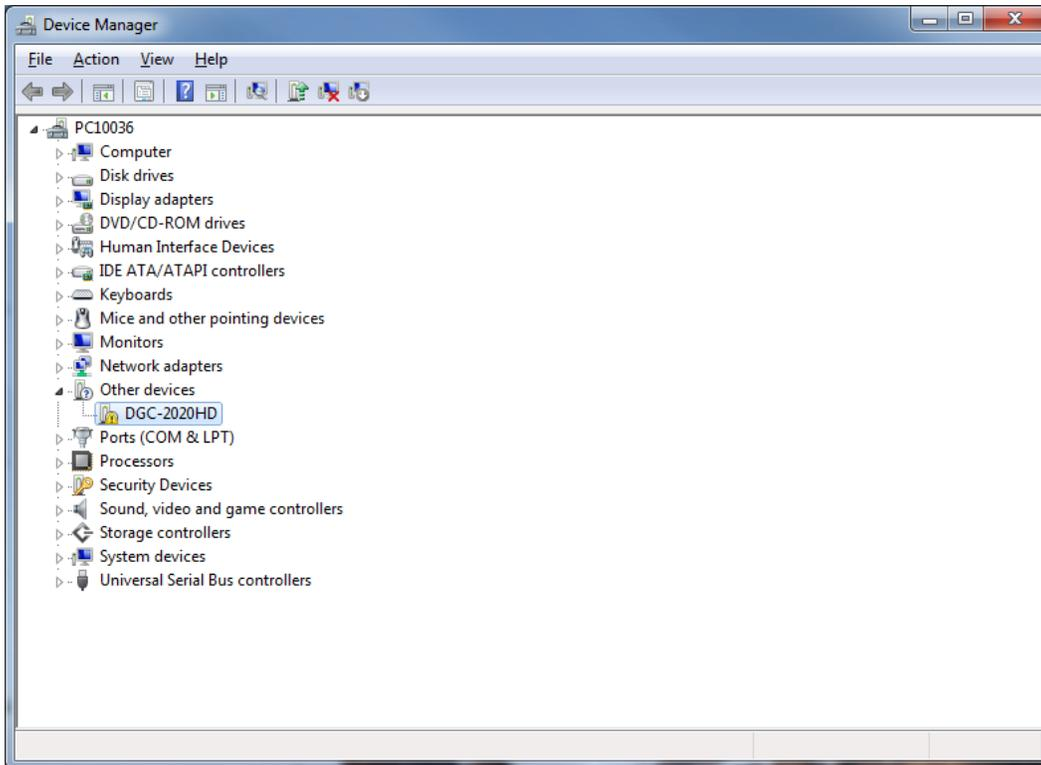

Figure 8-2. Device Manager
- Step 2. Open the Windows® Device Manger as shown in Figure 8-2. Right-click on DGC-2020HD (or Unknown Device) under Other Devices and select Properties.